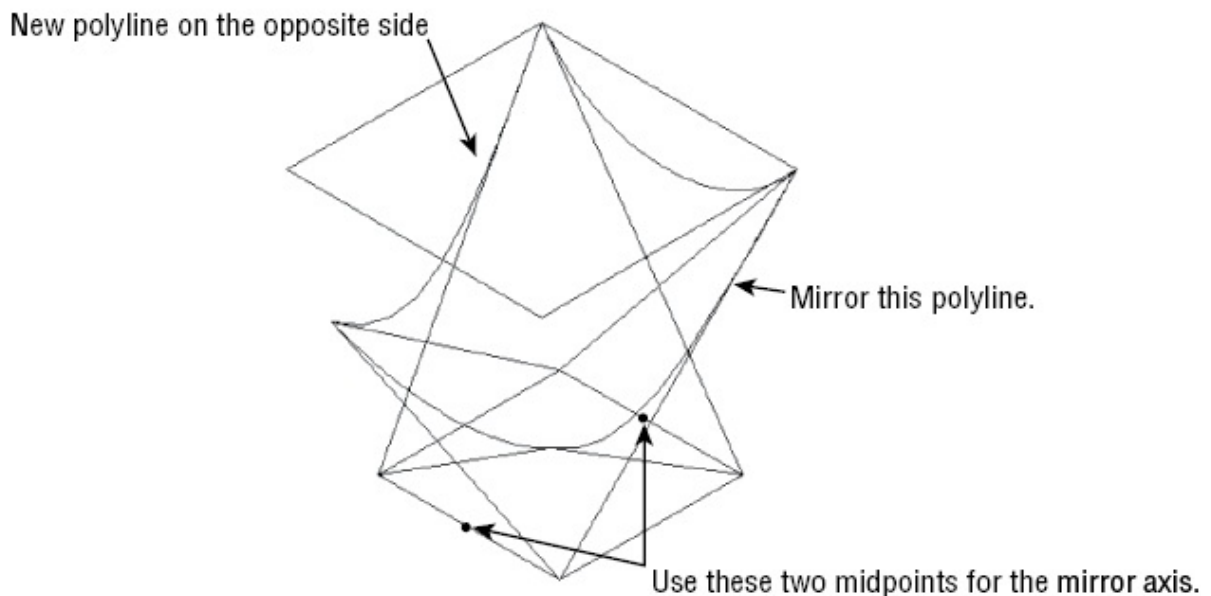
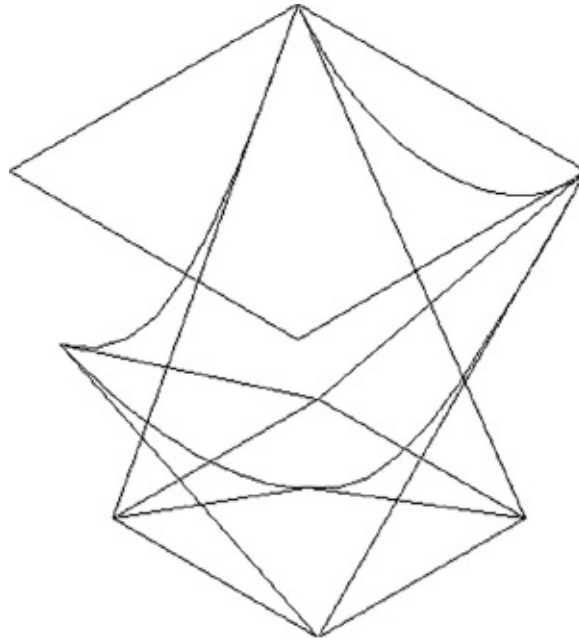

FIGURE 21.33 Set your UCS to World, and then mirror the arc that defines the side of the chair seat.
FIGURE 21.34 Your butterfly chair so far
3. Start the 3DMirror command on the Home tab's Modify panel. At the Specify first point of mirror plane (3 points) or [Object/ Last/ Zaxis/ View/ XY/ YZ/ ZX/ 3points] <3points>: prompt, use the Midpoint override to pick the midpoint of the first side of the rectangle at the bottom of the model, then the opposite midpoint, and finally the midpoint of the top rectangle on the same side as the second point. Refer to Figure 21.33 for help. The polyline should mirror to the opposite side, and your chair should look like Figure 21.34.